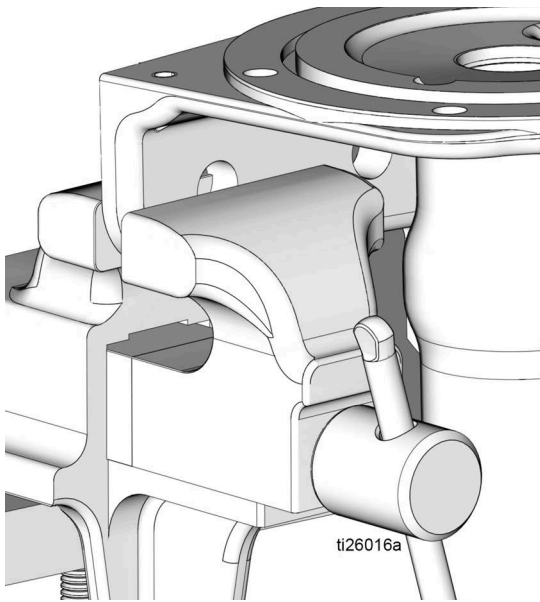

**FIG. 29**
- Remove square o-ring (8) from the pump base (1) (FIG. 29). Dispose of o-ring according to all regulations for proper disposal